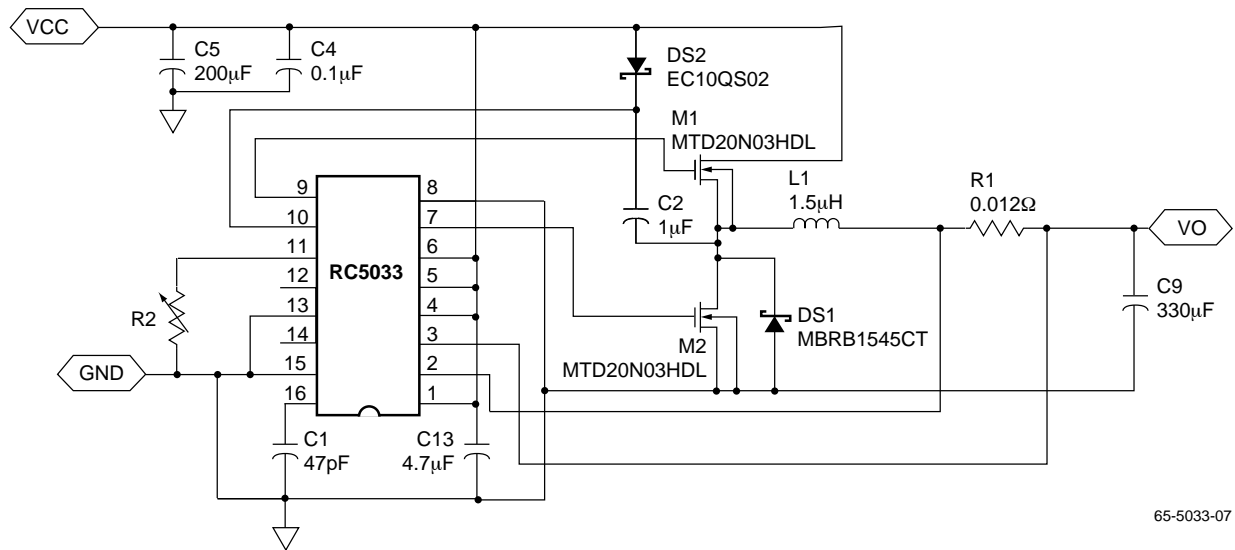

Figure 3. Adjustable Voltage DC-DC Converter
1. See Figure 3 for resistor connection.